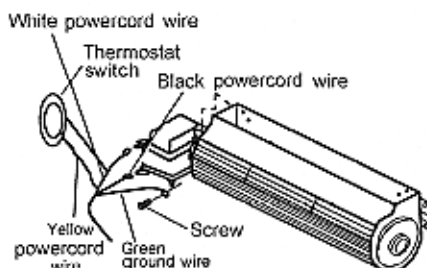

Figure 13-F-Removing Wires From Blower
2. Disconnect power cord wires from blower motor (if connected) (see Figure 13-F).
3. Disconnect green ground wire from blower housing (if connected) by removing screw holding wire terminal (see Figure 13-F).
9. Attach the terminal ends of the white and black power cord wires to the terminals on the blower motor (see Figure 13-F). Push firmly.
10. Attach the terminal end of the green power cord wire to the front tab of the blower housing using the screw provided (see Figure 13-F).